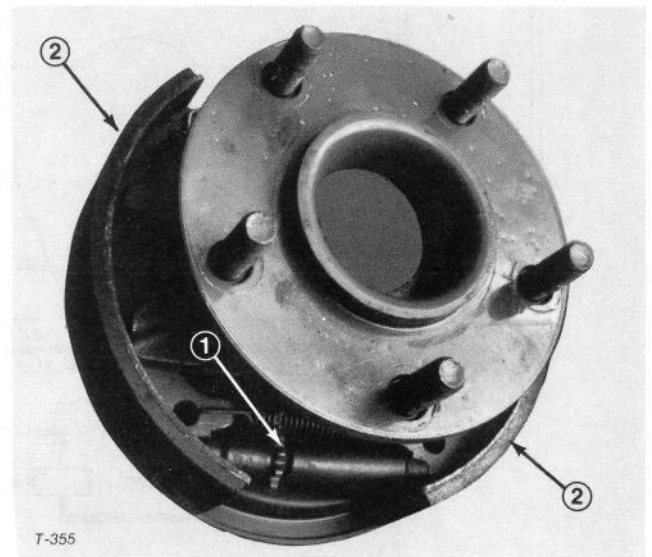

Figure 55
6. Using a brake adjusting tool or screwdriver, rotate star-nut (Fig. 54) down until brake drum (Fig. 54) locks because of outward pressure of brake shoes (Fig. 55).